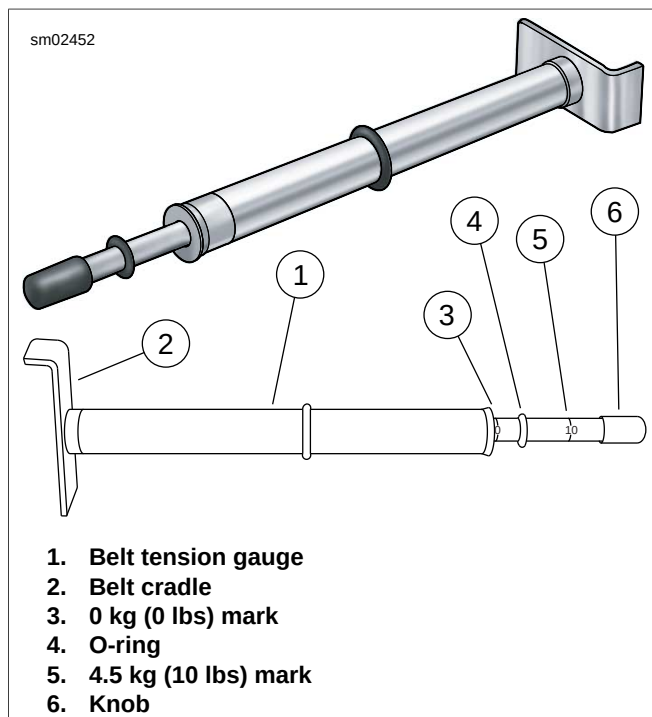

Figure 33. Belt Tension Gauge
6. See Figure 33. Slide O-ring (4) to 0 kg (0 lb) mark (3).
7. Fit belt cradle (2) against bottom of drive belt and align with belt deflection window.
8. Press up on knob (6) until O-ring slides down to 4.5 kg (10 lb) mark (5) and hold steady.